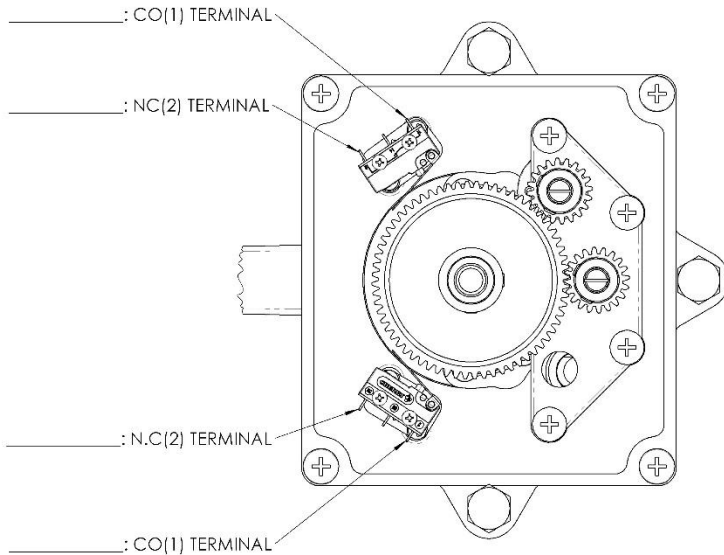

Figure 13: Wiring schematic for customer fill out
1. Note connections of all wires going to the old microswitches prior to disconnecting. It is recommended to fill out the colors of the wire going to each terminal on the diagram shown in Figure 13. On the old microswitch, Kobelt PN 6001-0104, the terminals are labelled 1 and 2, and correspond to terminals 1 and 2 on the new microswitches.
- a. Follow the wiring connections that were noted in step one, Figure 13.
- c. In case of discrepancy between the noted wiring and factory wiring, it is recommended to keep wiring as noted in Figure 13 as the wiring may have been altered in the field at original installation. This will ensure the RFU behaves in the same manner as prior to the retrofit.